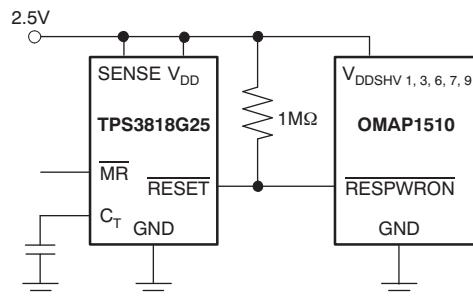

Figure 10. Typical Application of the TPS3818 with an OMAP Processor
A typical application of the TPS3818G25 used with the OMAP1510 processor is shown in Figure 10. The open-drain RESET output is typically connected to the RESET input of a microprocessor. A pull-up resistor must be used to hold this line high when RESET is not asserted. The RESET output is undefined for voltage below 0.8V, but this is normally not a problem because most microprocessors do not function below this voltage. RESET remains high (unasserted) as long as SENSE is above its threshold (V_{IT}) and the manual reset (MR) is logic high. If either SENSE falls below V_{IT} or MR is driven low, RESET is asserted, driving the RESET pin to a low impedance.